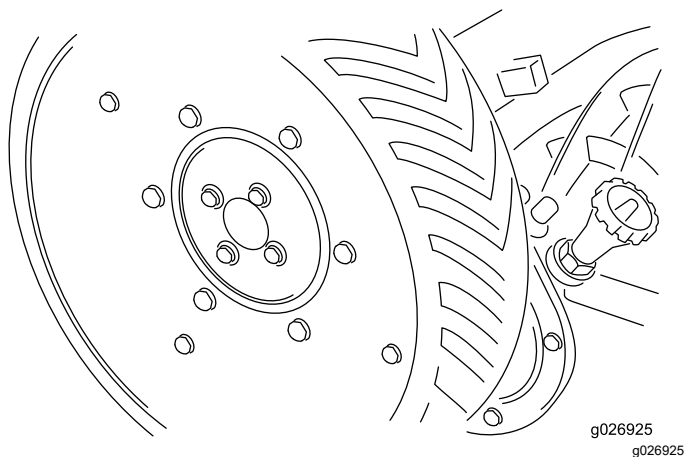

Figure 14
5. Install the drive wheels with cap screws and lock washers (Figure 14).